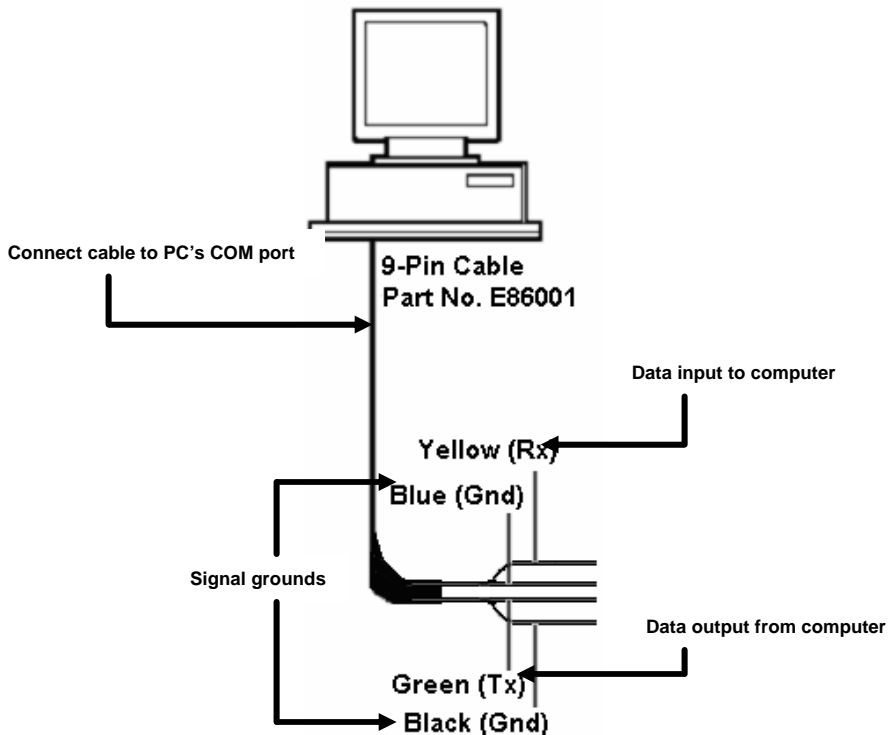

Figure A-1. Raymarine NMEA Connection Cable, Part No. E86001
This section explains the basics of connecting Navigator to the NMEA leads of a GPS, an NMEA-equipped instrument, radar, and an autopilot. These connections are made using a 9-pin NMEA cable (Figure A-1, Raymarine Part No. E86001), one end of which connects to your PC's COM port, the other to the various devices. In addition to the cable diagram, specific NMEA lead connection assignments are given for each type of device. Further details are also provided later in this appendix, in the section "Connecting Specific Instruments and Devices," which lists some common manufacturers' instruments and explains how to connect them to Navigator. In all cases, you should also refer to the manual that came with the device you are connecting.
To connect directly to a GPS system, refer to Figure A-1 and Table A-1.
To connect Navigator directly to an NMEA-equipped instrument system, refer to Figure A-1 and Table A-2.
To connect directly to radar, refer to Figure A-1 and Table A-3.
To connect directly to an autopilot, refer to Figure A-1 and Table A-4.
To connect directly to a Raytheon Autohelm system, refer to Figure A-1 and Table A-5.
3. Refer to Figure A-1 and Table A-6 to make the connections.
To connect to a B&G NMEA FFD display, refer to Figure A-1 and Table A-7.
To connect to a KVH Race Box, refer to Figure A-1 and Table A-8. (To connect to an NMEA Box, refer to "NMEA Basics," earlier in this appendix.)
3. Refer to Figure A-1 and Table A-9 to make the required cable connections.